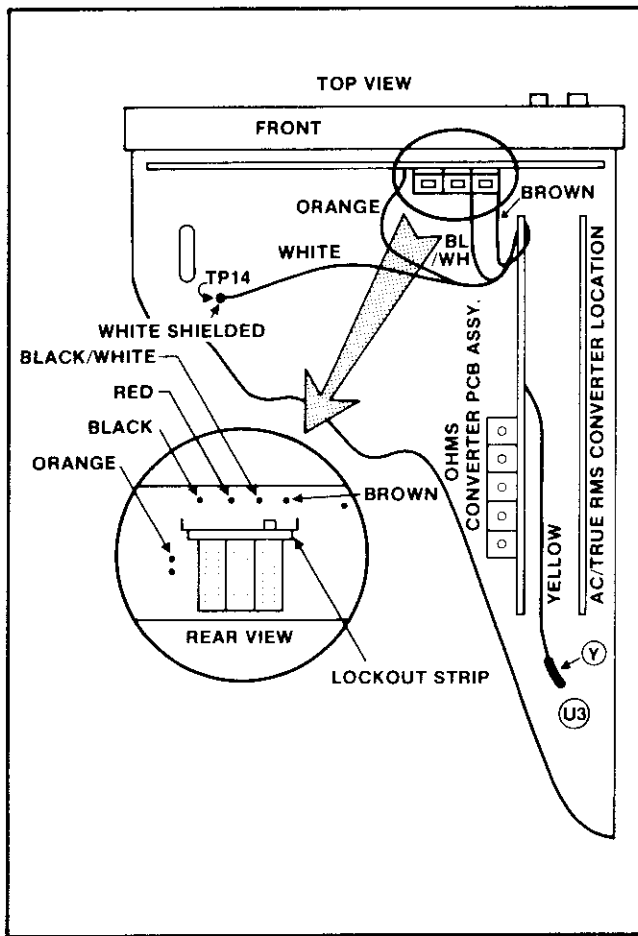

Figure 607-2. Ohms Converter PCB Installation Details
3. Position and install the Ohms Converter PCB Assembly on the Main PCB Assembly as shown in Figure 607-2. The Ohms Converter
4. Connect the five loose wires on the Ohms Converter PCB to the pins indicated in Figure 607-2.